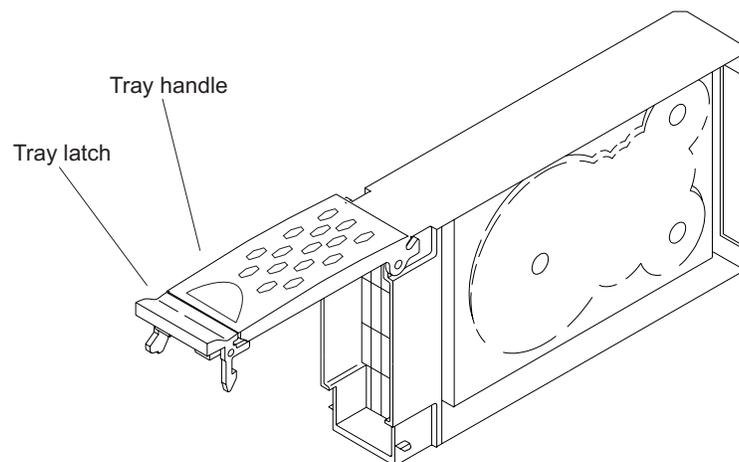

Figure 39. Drive CRU handle
- b. Pull the handle on the tray out so that it is in the open position, as shown in Figure 39.
- a. Release the latch on the drive CRU by pinching together the blue line on the tray latch and the finger hole on the tray handle, as shown by the arrow in Figure 39 on page 67.